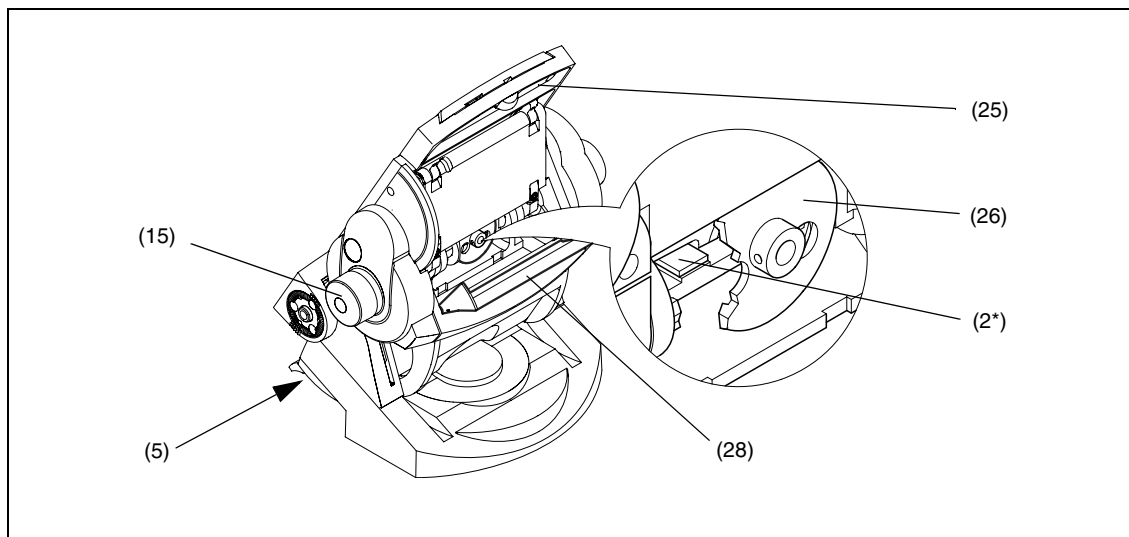

Fig 6 Cleaning the horizontal tracks
The product serial number location (25) is shown in Fig 6.